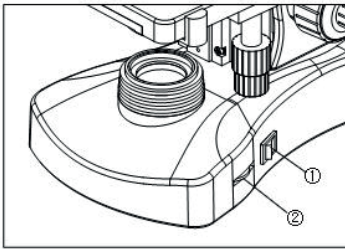

Fig.16
3.2.1 Ajustar el brillo (Fig.16)